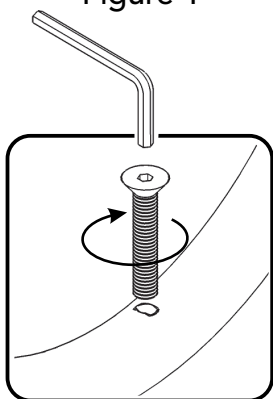

Figure 2
Attach Side Rails (D) to unit with Flat Head Bolts, tightening bolts only halfway. (See Figures 2 and 3)